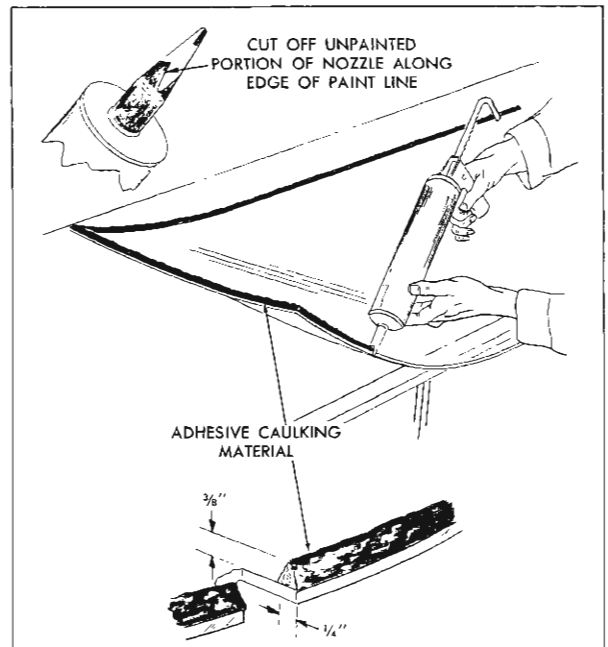

Fig. 11-22 Adhesive Application
6. Cut off unpainted portion of cartridge nozzle along edge of paint line (Fig. 11-22).
8. Carefully apply a smooth continuous bead of caulking material on inside surface of glass next to edge completely around glass (Fig. 11-22). Caulking material should be approximately  $\frac{1}{4}$ " wide at the base, and form a pyramid  $\frac{3}{8}$ " high. If, during application, an air bubble is encountered in material, back up the applicator and apply sufficient material to fill the void and to disperse the bubble before continuing.